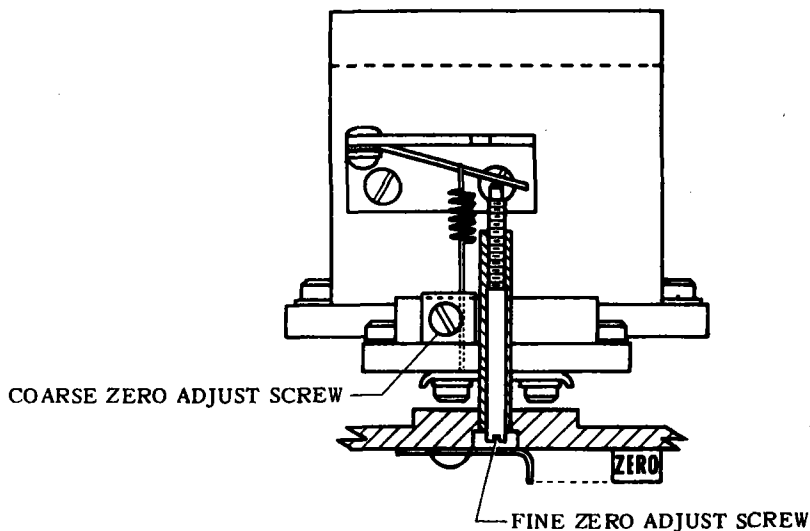

Figure 7 - Zero Adjustment
3. Adjust the Fine Zero Adjust Screw (Figure 7) until output air pressure is 3.0 psig. Clockwise rotation causes output pressure to decrease. If the Fine Zero Adjust Screw does not provide sufficient adjustment, loosen the Coarse Zero Adjust Screw (Figure 7) and increase the tension of the spring and retighten screw. Rezero with the Fine Zero Adjust Screw.
3. Adjust Zero (Figure 7) until output air pressure is 15.0 psig. Clockwise rotation causes output pressure to decrease. If the Zero Adjust Screw does not provide sufficient adjustment, loosen the Coarse Zero Adjust Screw (Figure 7) and increase the tension of the spring. Retighten screw. Rezero with the Zero Adjust Screw.